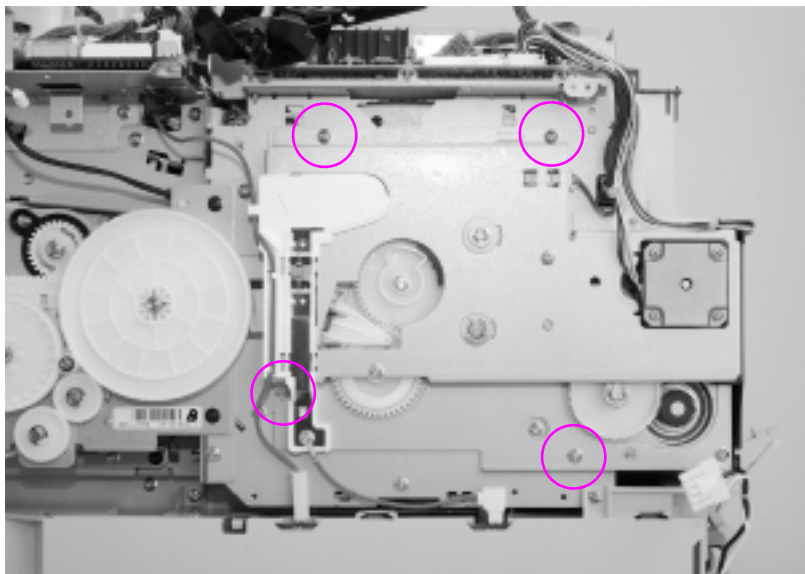

Figure 6-37 Carousel drive assembly removal and replacement (2 of 2)
- 10 Remove the four screws shown in Figure 6-37 from the carousel drive assembly.
- When replacing the carousel drive assembly, be sure to align the “D” shaped shaft with the “D” shaped hub located on the gear in the center of Figure 6-37.